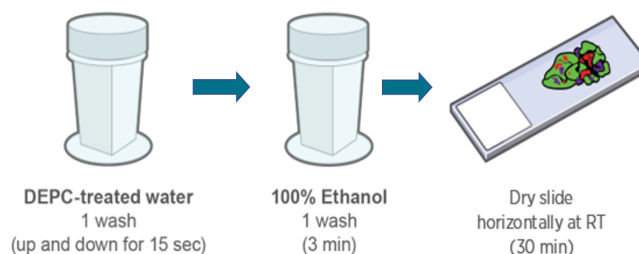

Figure 42: Ethanol Wash
7. **Immediately transfer all slides to staining jar containing fresh DEPC-treated water.** Move slides up and down for 15 seconds to wash slides (Figure 42).